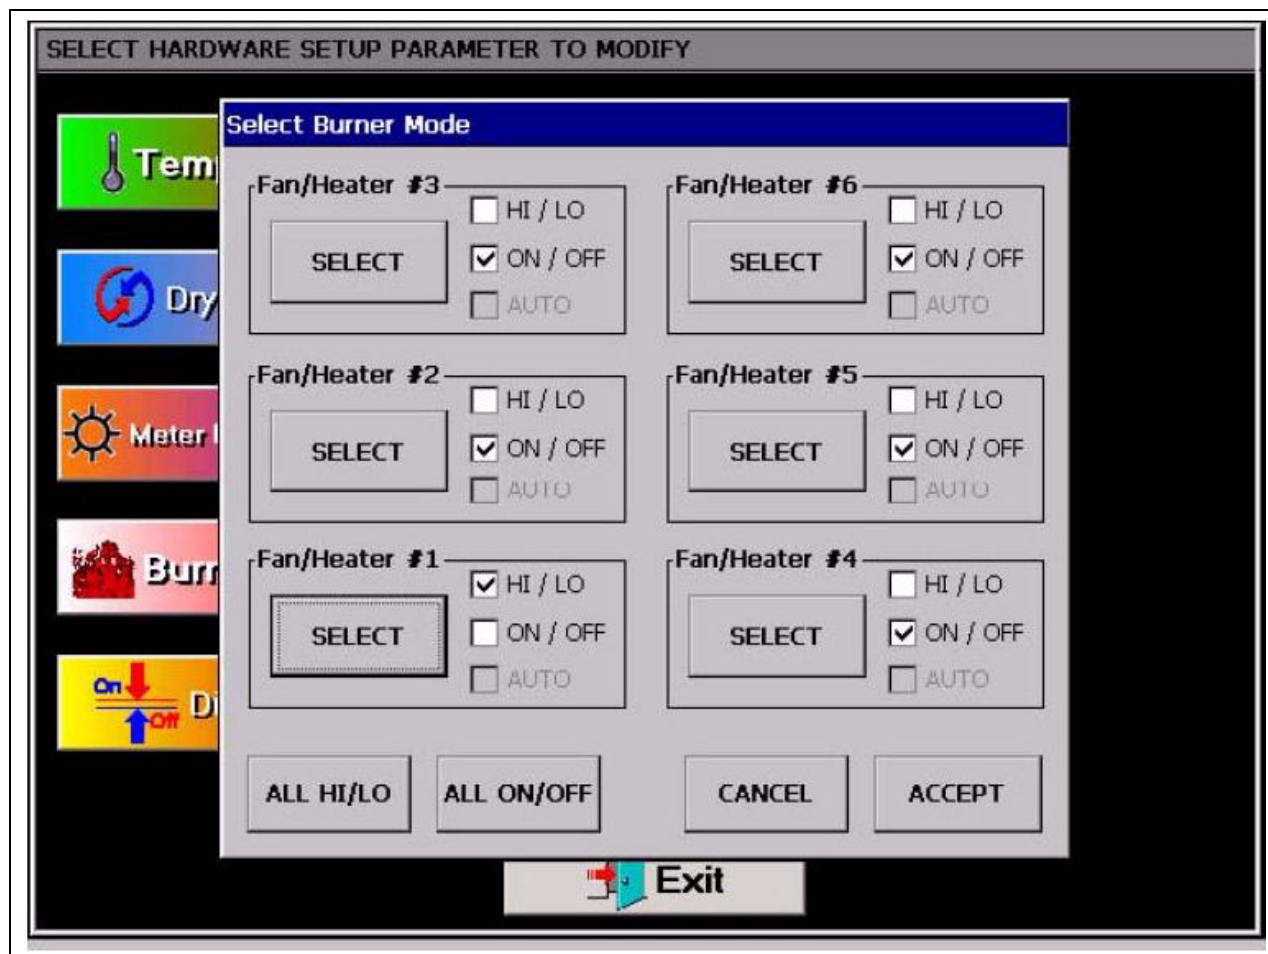

Figure 6H
7.  burner mode should be ALL HIGH/LOW. (See Figure 6H.)